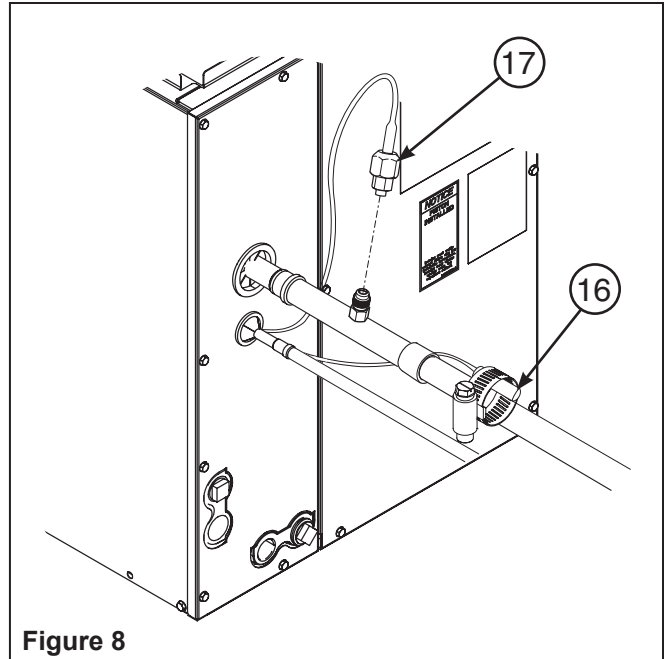

Figure 8
- Position the bulb on a smooth straight section of the vapor line downstream of the equalizer fitting as illustrated in Figure 8. If the bulb must be mounted vertically, ensure that the bulb tube is pointed upward.
16. Attach the bulb to the vapor line using the supplied hose clamp (Figure 8). The clamp should be “snug” but not “tight” – spec is to torque the hose clamp to 20 ± 5 in-lb. Make sure that the entire length of the bulb is in firm contact with a straight smooth section of the vapor line. Wrap with supplied insulation.